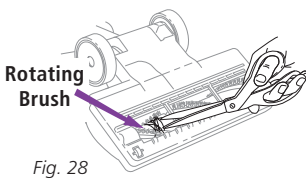

Fig. 28
- 2 Inspect the opening underneath and the rotating brush. If a build-up of debris is present, remove it. Carefully cut anything wound around the rotating brush with scissors. Avoid damaging or cutting the bristles. **(Fig. 28)**